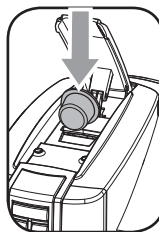

Fig. 2
- 3- Insert the capsule as shown in the figure (Fig. 2).